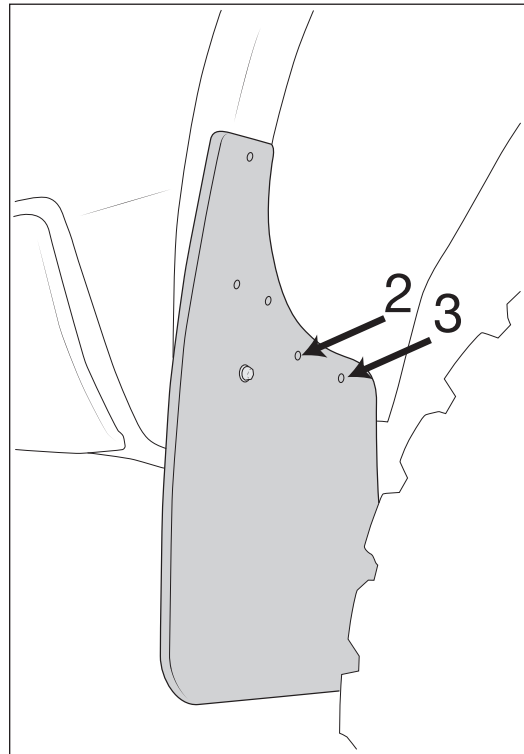

Figure 2
5. Ensuring that the bottom edge of the Splash Guard is still parallel with the ground, drill 8 mm holes through the fender liner at locations 2 and 3 (Fig.2).